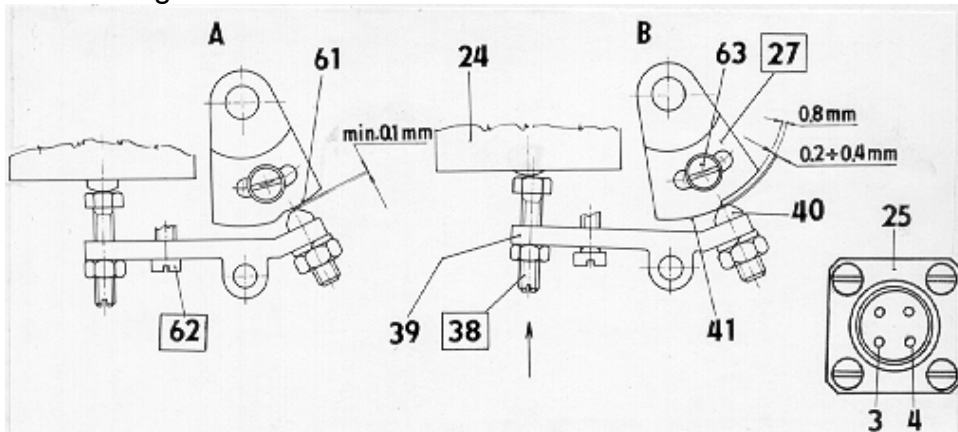

Fig. 505 Adjustment of microswitch “V” by elements 38, 62 A 27 A - electrical circuit switched off B - electrical circuit switched on
- 5.1 The adjusting element (further only “element”) 38 – bolt on lever 39 – which controls the micro-switch “V” 24 (Fig. 505) is to be set in the following manner.
5.2 Check, when moving back in basic position – state "A" (Fig. 505) e. g. after electrical circuit switched off, whether the top of pin 40 is in minimum distance 0.1 mm from the foot surface 61. If this clearance is smaller adjust it by element 62 – arrest propeller. Then secure it by tightening its nut.
See state „A“ (Fig. 505).
- 5.4 Finally, adjust the instant of switching on the electrical circuit depending upon the shift out of the BETA carrier ring. Use the following method: Setting manually the blades at a suitable AL position shift out the BETA carrier ring 53 (Fig. 405) and adjust it to a distance according to Tab. 501 dependable the Propeller Speed Governor version installed. The instant of the switching on the electrical circuit is to be adjusted only by rotating the element 27 (cam) when releasing screw 63 (Fig. 505).
**NOTE:** It is also possible to test the instant of switching of the electrical circuit by microswitch „V“ when connecting a suitable low voltage source (about 4.5 V) and a lamp to pins 3, 4 of the socket 25 (Fig. 505).